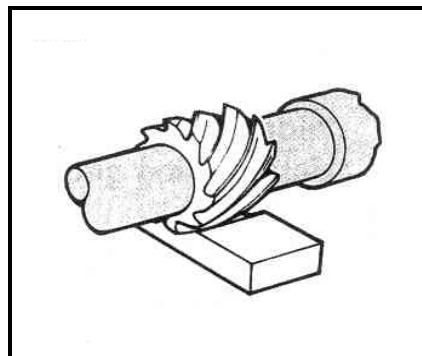

FIGURE 1.2
- 1.7 Identify the type of milling cutter shown in FIGURE 1.2 below.